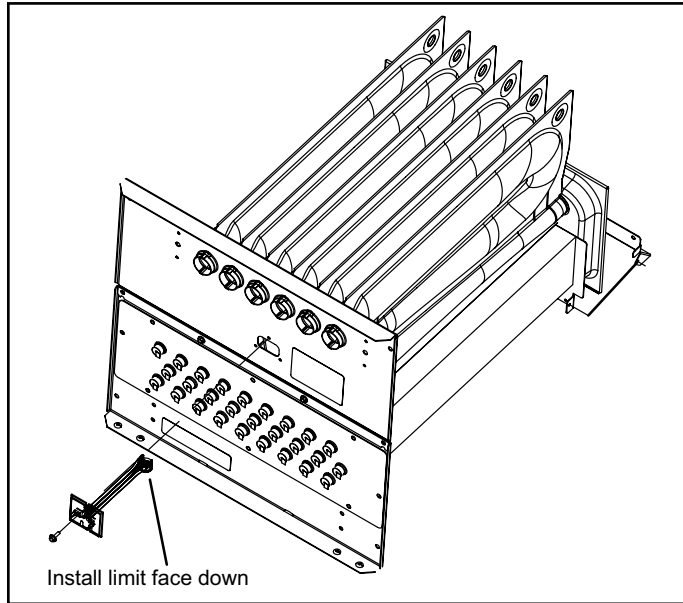

Figure 6. Primary Limit Location and Heat Exchanger
**Heat Exchanger (Figure 6)**
### Primary Limit Control (Figure 6)